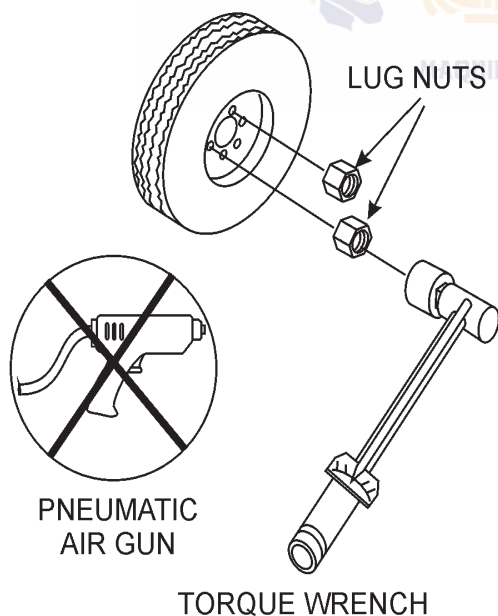

Figure 39. Wheel Lug Nuts Tightening Sequence
2. Torque all lug nuts in sequence. See Figure 39. **DO NOT** torque the wheel lug nuts all the way down. Tighten each lug nut in 3 separate passes as defined by Table 10.